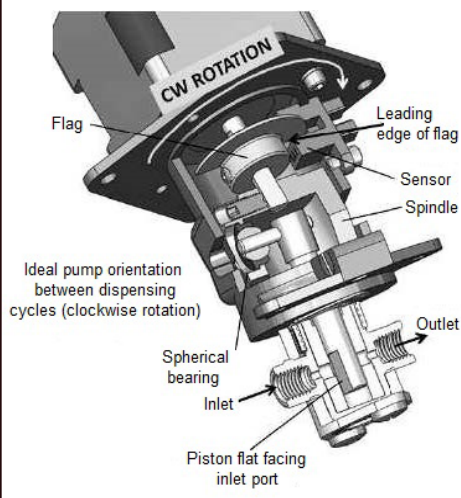

Fig. 2
8. STH Pump Homing. Best dispensing performance of the pump is obtained by proper set up of the start/stop position of the piston relative to the intake port of the pump housing. Positioning of the piston flat so that it directly faces the inlet port is termed "homing". Fig. 2 shows the home position for a pump which has been set up to turn clockwise. In this case the inlet port is on the left. If a particular application calls for the inlet port to be on the right, the pump will be programmed to turn counterclockwise and the figures below must be reversed.